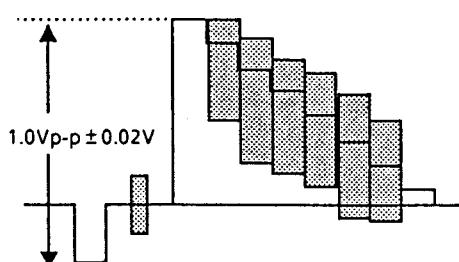

Fig. 4-1
- Adjust VR2 so that the level of Y signal becomes $1.0V \pm 20mV$. (Fig. 4-1)